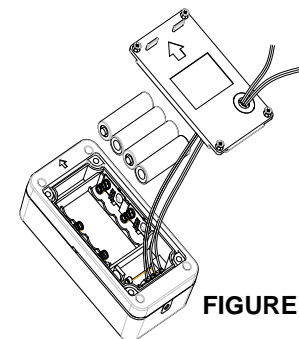

FIGURE 2
3. Insert 4 AA 1.5V batteries, ensuring correct polarity (FIGURE 2).